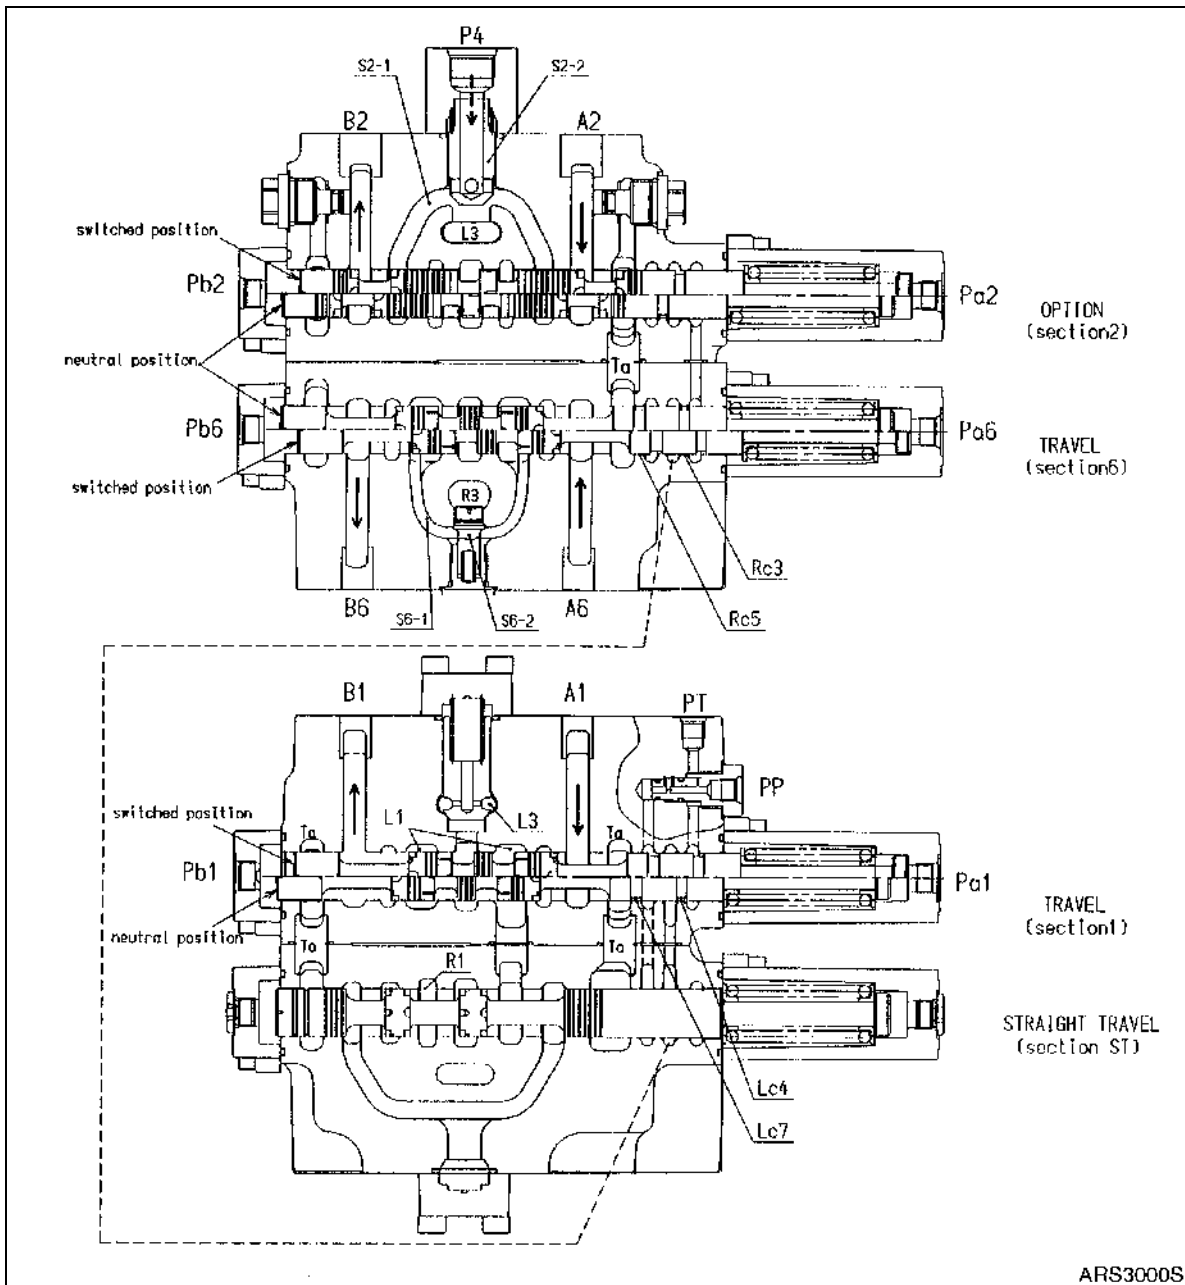

Figure 4
1. When shifting travel spool by increasing pressure of travel (section 1, Figure 4) pilot port (Pb1 (Pa1)), oil supplied to port (P1) flows through neutral passage (L1) to spool and flows to port (B1 (A1)). Return oil flows through port (A1 (B1)), to spool and returns to tank passage (Ta).
3. When shifting either spool (section 1 or 6), land (Lc4) or (Rc3) is closed. Oil supplied from port (PP) does not flow into tank passage, so that pressure at port (PT) rises.
1. When shifting spare spool by increasing pressure of spare (section 2, Figure 4) pilot port (Pb2 (Pa2)), neutral passage (L1) is closed. Oil supplied to port (P1) flows through parallel passage (L3), load check valve (S2-2), passage (S2-1), and spool, it then flows to port (B2 (A2)). Return oil flows through port (A2 (B2)) to spool and returns to tank passage (Ta). When oil is also supplied from port (P4), it flows through load check valve (S2-2) and is combined at passage (S-1).